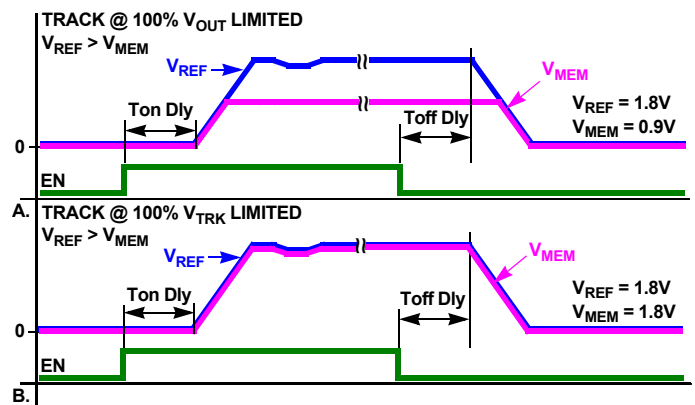

FIGURE 18. COINCIDENT TRACKING
The ZL8101 offers two modes of tracking: coincident and ratiometric. Figure 18 and Figure 19 illustrate the output voltage for the two tracking modes.
- Track at 100% VOUT limited. Member rail tracks the reference rail and stops when the member reaches its configured target voltage. Figure 18 A.
- Track at 100% VTRK limited. Member rail tracks the reference at the instantaneous voltage value applied to the VTRK pin. Figure 18 B.